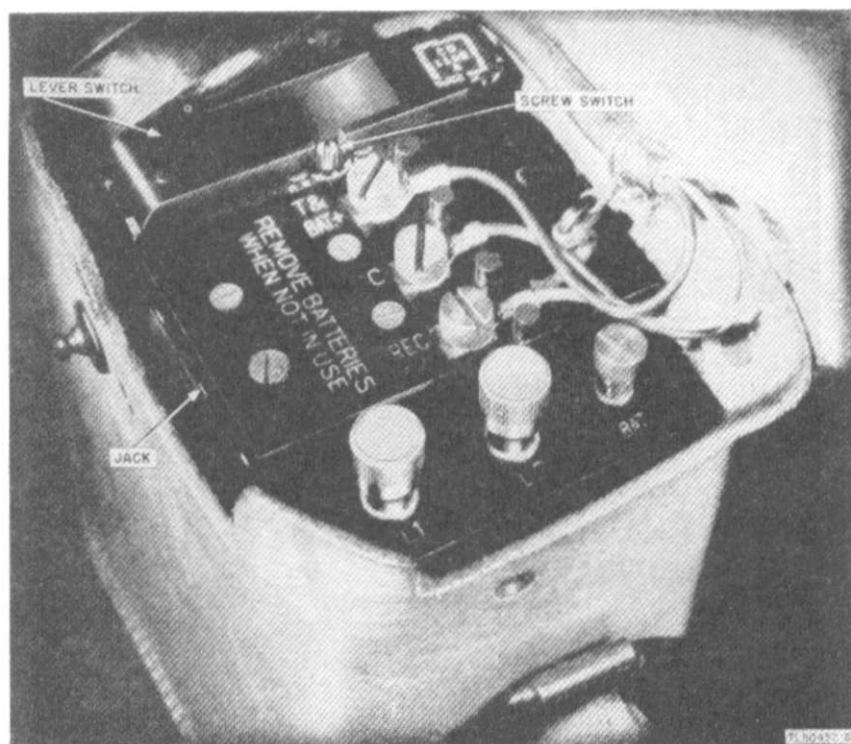

Figure 5. Telephone EE-8-A—top view, case open.
(1) *Terminal block.* The terminal block (fig. 5) forms the top of the body. On it are mounted the following: